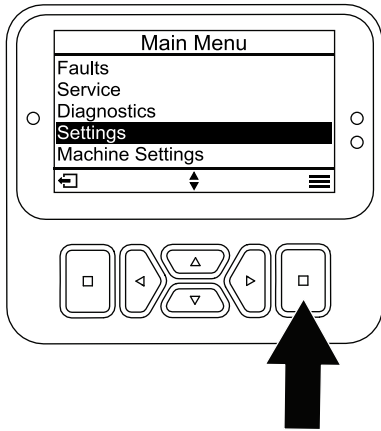

Figure 18
1. From the MAIN MENU, scroll down to the SETTINGS menu and press the select button (Figure 18).